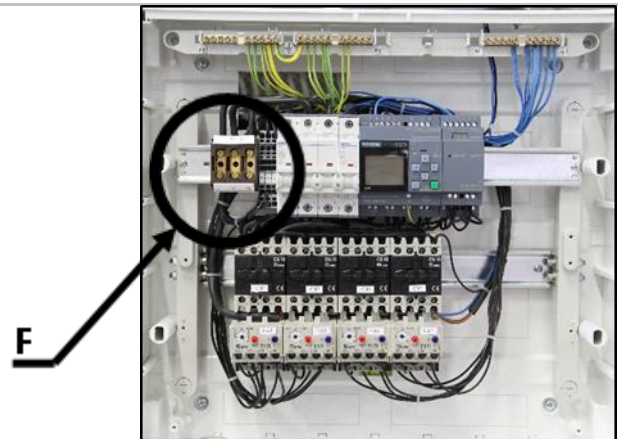

Fig. 19: Connecting the cable to the pressure switch
- Connect the loose cord to the pressure switch per the schematic, or Fig. 19, tighten the screws and secure with paint